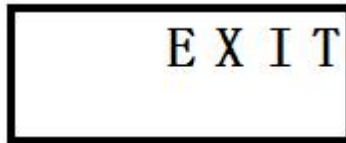

Figure9
2.1 In the state when the menu is not started, enter "Confirm" , the menu will be started, as shown in Figure 9:
2.2 In the state shown in Figure 9, enter "Confirm" key to exit the menu, menu state return to initial state.
3.1 Enter "Left" display the menu items from lower to upper circular when the screen displays as shown in Figure 9,enter "Left" once, as shown in Figure 10.Enter "Left" once again, as shown in Figure 11.
3.2 Enter "Right" display the menu items from lower to upper circular when the screen displays as shown in Figure 9,enter "Right" once, as shown in Figure 12.Enter "Right" once again, as shown in Figure 13.
5.1.1 Enter "Confirm" once to start menu, as shown in Figure 9;
5.1.7 Enter "Left" ten times or "Right" twice, as shown in Figure9;
5.2.1 Enter "Confirm" once to start menu, as shown in Figure 9;
5.2.11 Enter "Left" eight times or "Right" four times (menu browse), as shown in Figure 9;
1.1 Enter "Confirm" once to start menu when menu doesn't start, then the screen displays as shown in Figure9;
1.2 In the State as shown in Figure 9, enter "Confirm" once to exit the menu.